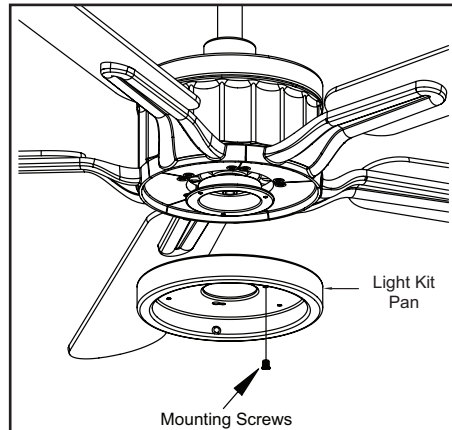

Figure 16
1. Loosen but do not remove two of three mounting screws from the fan motor assembly; Remove one mounting screw. (Figure 16)
2. Push the light kit pan up to the fan motor assembly so that the two loosened screw heads fit into the keyhole slots. Turn the light kit pan clockwise, tightened the screws. Re-install the screw that was removed in step 1 and tighten firmly. (Figure 16)